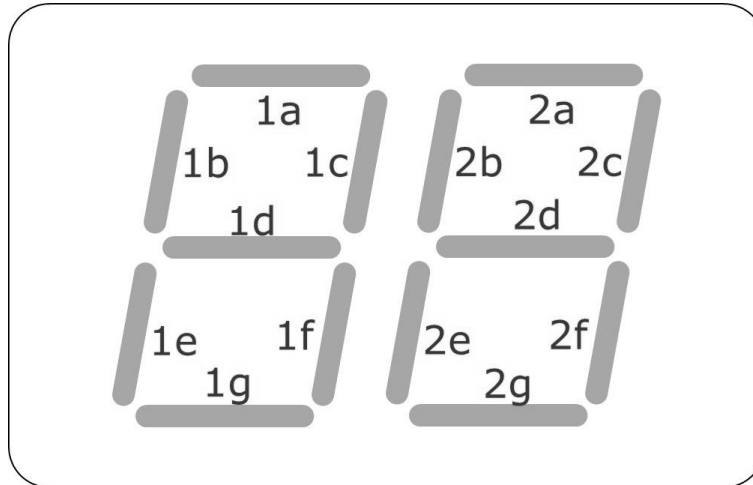
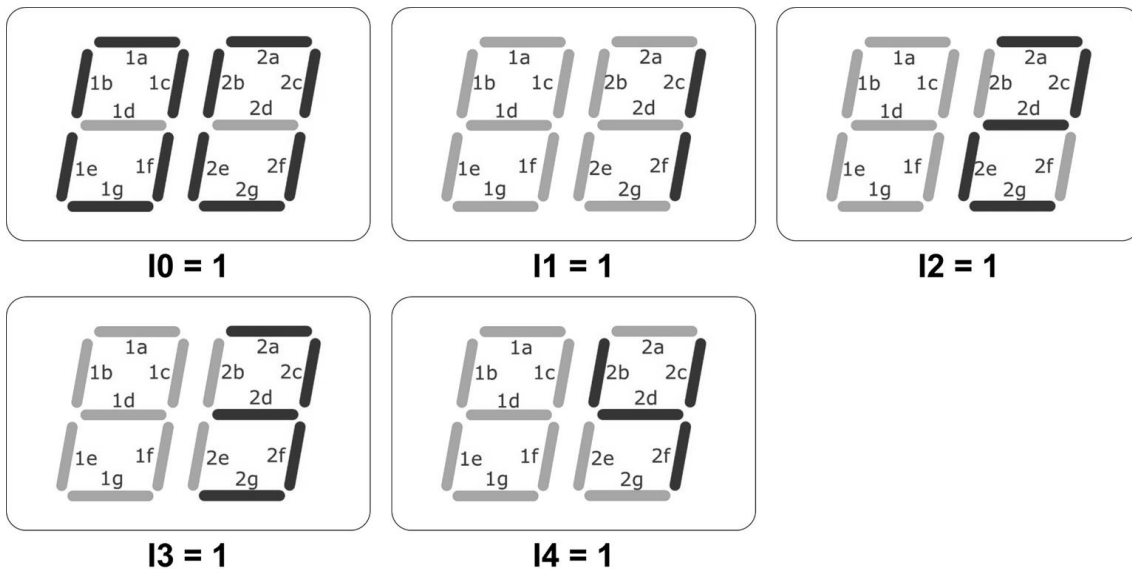

Figure Q1A – Lift floor display
Figure Q1B – All lift floors shown in display form
1. You have been asked to design the "floor indicator LCD display" for a lift in a building that has total 5 floors/levels including the ground floor (treat ground floor as floor 0, so total of 5 stops with floor **0** to **4**). The "display" looks as below in Figure Q1A: there are two "digits" in the display, Num1 and Num2, each digit composed of 7 individual lights a-g. All floor display is shown in Figure Q1B. The input signal is an individual ON/OFF signal for each floor, i.e., there are 5 individual inputs I0, I1, I2, I3, I4 which individually go high (1) if the lift is on that respective floor, e.g., I3=1 and rest (I0-I2 and I4) =0 when the lift is on the 3rd floor:
- (b) Produce the truth table for all floors shown in Figure Q1B? Copy the template in Figure Q1C and fill in the blanks. [10]